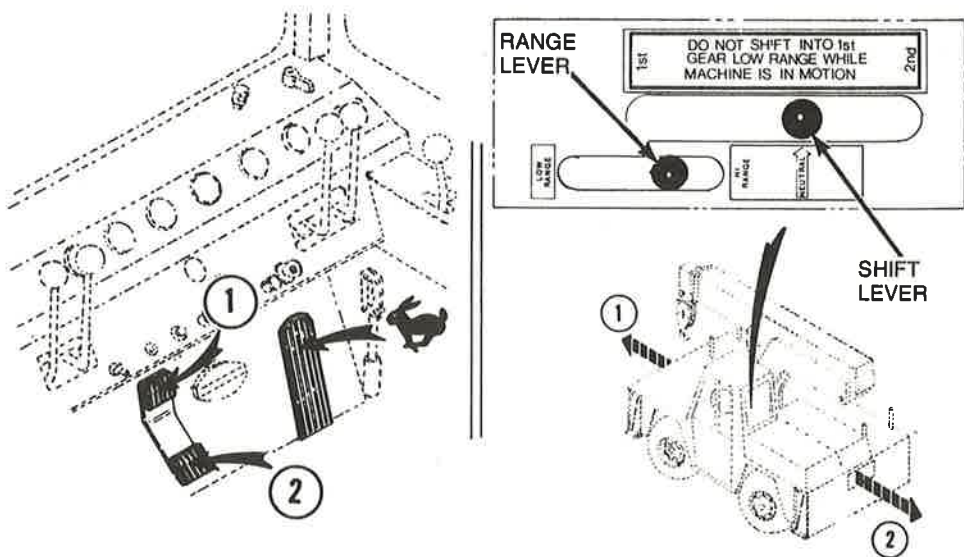

Figure 10. Machine Operation
4. Select direction of travel on the forward-reverse pedal. Push top of pedal to move machine forward. Push bottom of pedal to move machine in reverse (See Figure 10).
5. Push the accelerator pedal. The CRANE will move in the direction selected (See Figure 10).